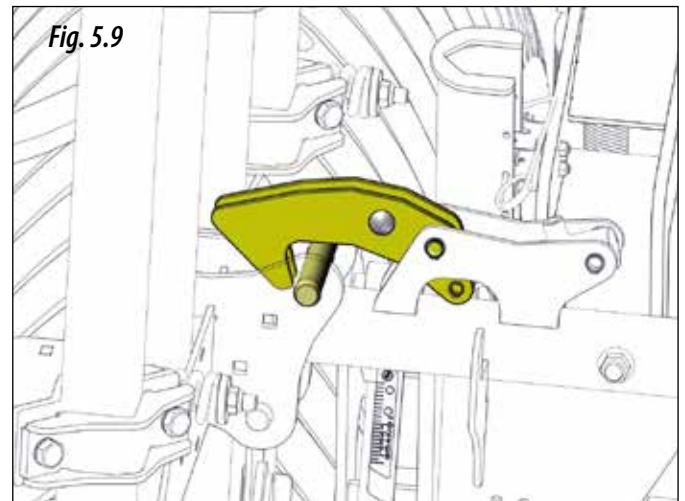

Fig. 5.9
- 3- Lift the side units and make sure that the safety latches have been secured with the bolts (Fig. 5.9).